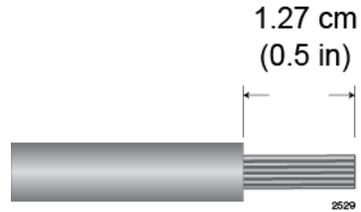

Figure 113. Stripping the Power Wires
1. Prepare adequate lengths of two stranded 8 AWG power wires by stripping them as shown in Figure 113 on page 159.